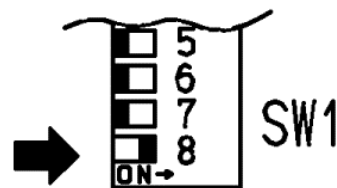

Fig. 3
10. Move switch No. 8 of SW1 to 'ON' position (Fig. 3).